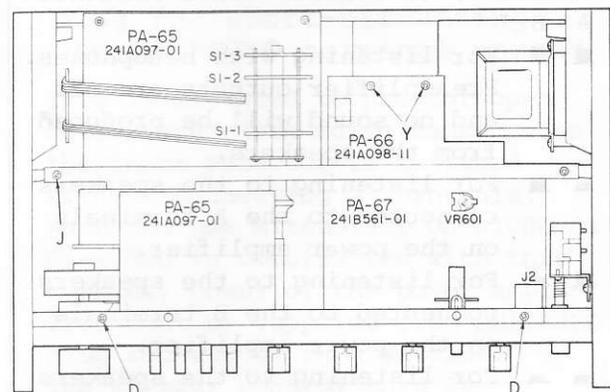

Fig. 4
- 1) Take off the two upper panel fixing screws indicated as D in Fig. 4.
- 5) Take off the side panel and holder assembly screw (J in Fig. 4).
- 5) Remove the two printed circuit board (PA-66) assembly screws (Y in Fig. 4).